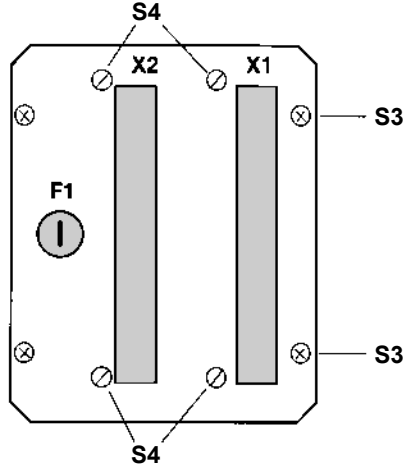

Fig. 2
- 3) Replace power fuse F1 back of cassette (**Fig. 2**). Refer to the following table for fuse rating and order number.
- 5) Unscrew the 4 recessed head screws on the back (**Fig. 2**) and carefully pull the electronic unit out of the cassette, together with the back.
- 5) Unscrew the 4 recessed head screws on the back (**Fig.2**) and carefully pull the electronic unit out of the cassette, together with the back.